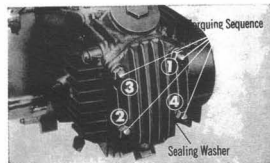

Fig. 30
- The position of the cylinder head nuts is ①, ②, and ③ for the blind nut, and ④ for the plain nut. Do not omit the sealing washer on the ④ position (Fig. 30).
- When torquing down the cylinder head, tighten the nuts uniformly in a diagonal sequence as shown in Fig. 30 and torque to the final specified torque value of 90-120 kg-cm (6.5-9 ft-lb).